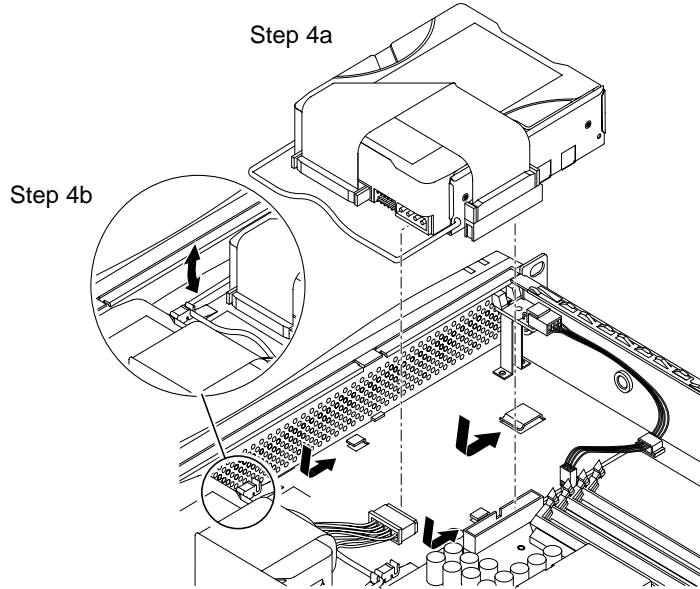

FIGURE 10-9 Installing a Hard Disk Drive
4. Insert and align the new hard disk drive (see FIGURE 10-9).